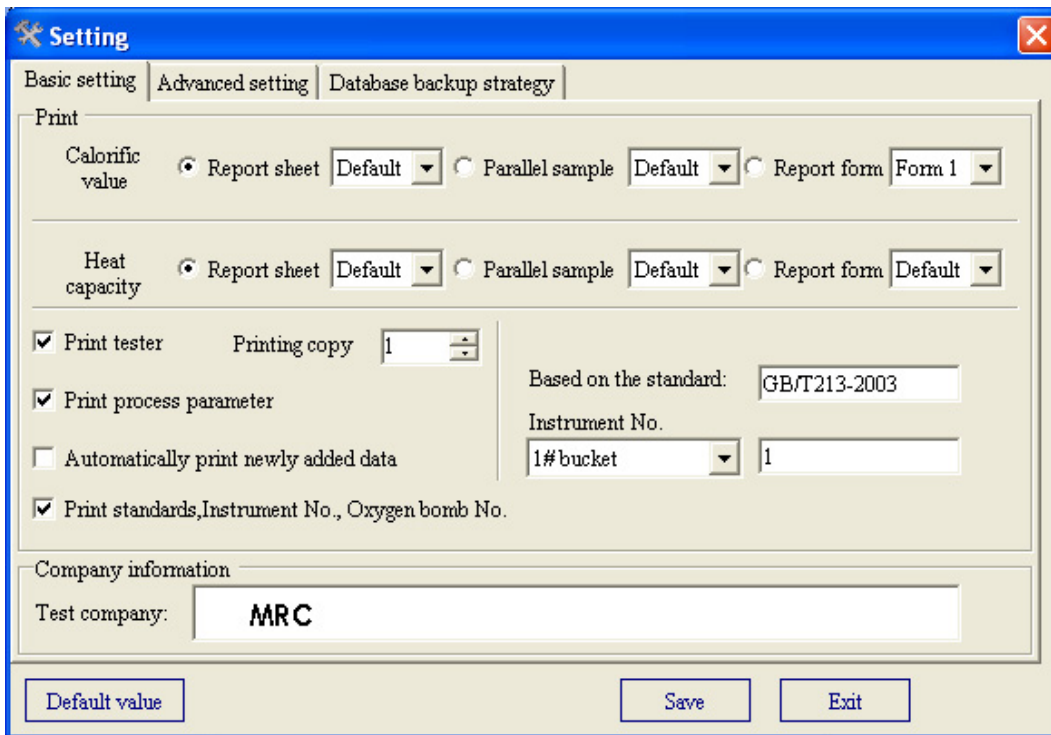
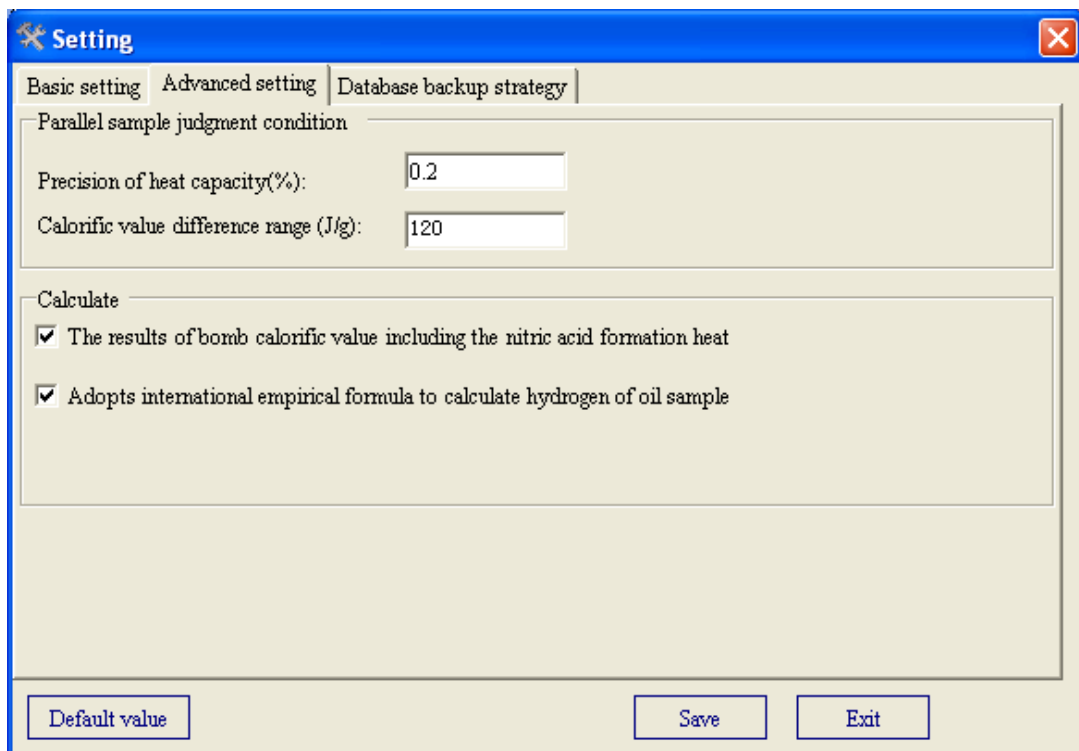
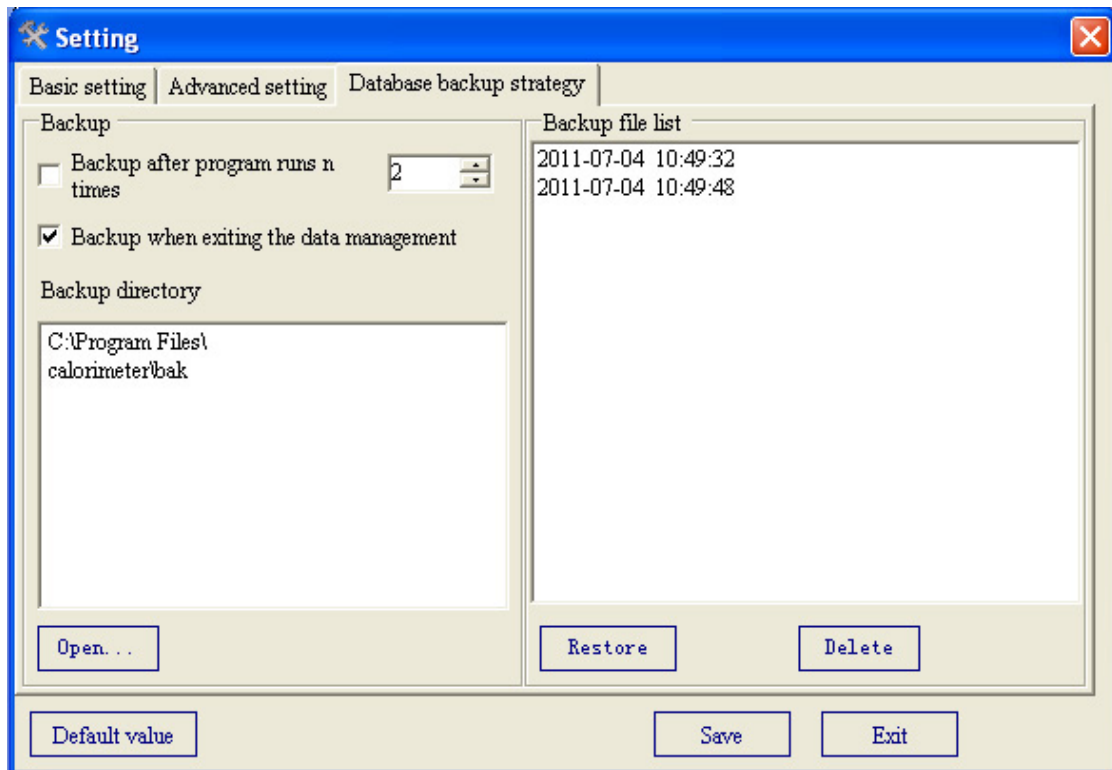

Fig.5-5
Fig.5-6
Fig.5-7
2. Common setting: Test company information, the printing copies, the database backup strategy can be set. For details, please refer to Fig. 5-5 Basic Setting, Fig. 5-6 Advanced Setting and Fig. 5-7 Database Backup Strategy.
● **Database backup strategy (as Fig. 5-7)**